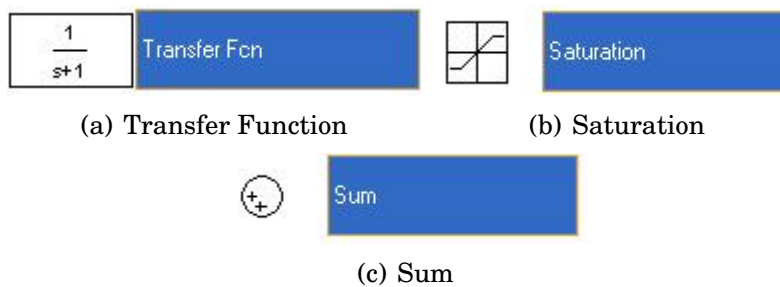

Figure 7: Homework Simulink blocks
4. In most systems we would need to add a **Transfer Fcn** block for the plant dynamics. This block can be found in the **Continuous** group of blocks and is shown in Figure 7(a). However, since our plant is just a $\frac{1}{s}$ plant, we can just use our integrator block. Make a copy of your **Integrator** block by holding down the **CTRL** button, clicking and dragging the **Integrator** block, then release. This should place a copy of the integrator in your model. Place this integrator block to the right of the other one and to the left of the scope.
5. Find the **Saturation** block, located in the **Discontinuities** set and shown in Figure 7(b). Put this block between the two **Integrator** blocks.
add a **Sum** block, which is located in the **Math Operations** set and shown in Figure 7(c). Drag this block in between your **Step** and **Gain** block.